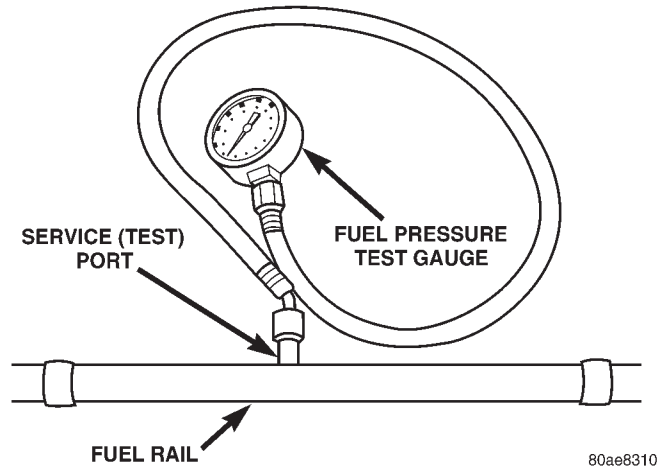

Fig. 7 Fuel Pressure Test Gauge (Typical Gauge Installation at Test Port)
(1) Remove protective cap at fuel rail test port. Connect the 0–414 kPa (0–60 psi) fuel pressure gauge (from gauge set 5069) to test port pressure fitting on fuel rail (Fig. 7).
(2) Start and warm engine and note pressure gauge reading. Fuel pressure should be 339 kPa \pm 34 kPa (49.2 psi \pm 5 psi) at idle.
(3) If engine runs, but pressure is below 44.2 psi, check for a kinked fuel supply line somewhere between fuel rail and fuel pump module. If line is not kinked, but specifications for either the Fuel Pump Capacity, Fuel Pump Amperage or Fuel Pressure Leak Down Tests were not met, replace fuel pump